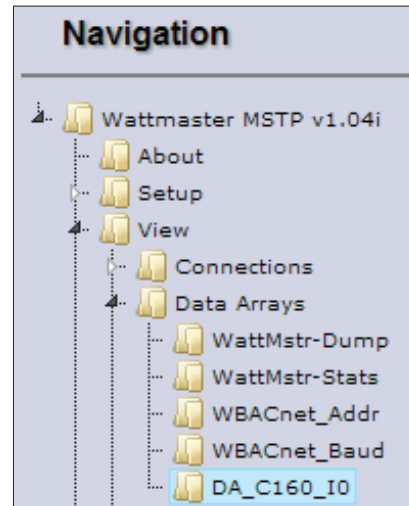

Figure 15: Navigation Window - View Data Arrays
1.) In the *Navigation Window* on the left of the *FS-GUI Main Screen*, click **<View>** and then click **<Data Arrays>**. See Figure 15.